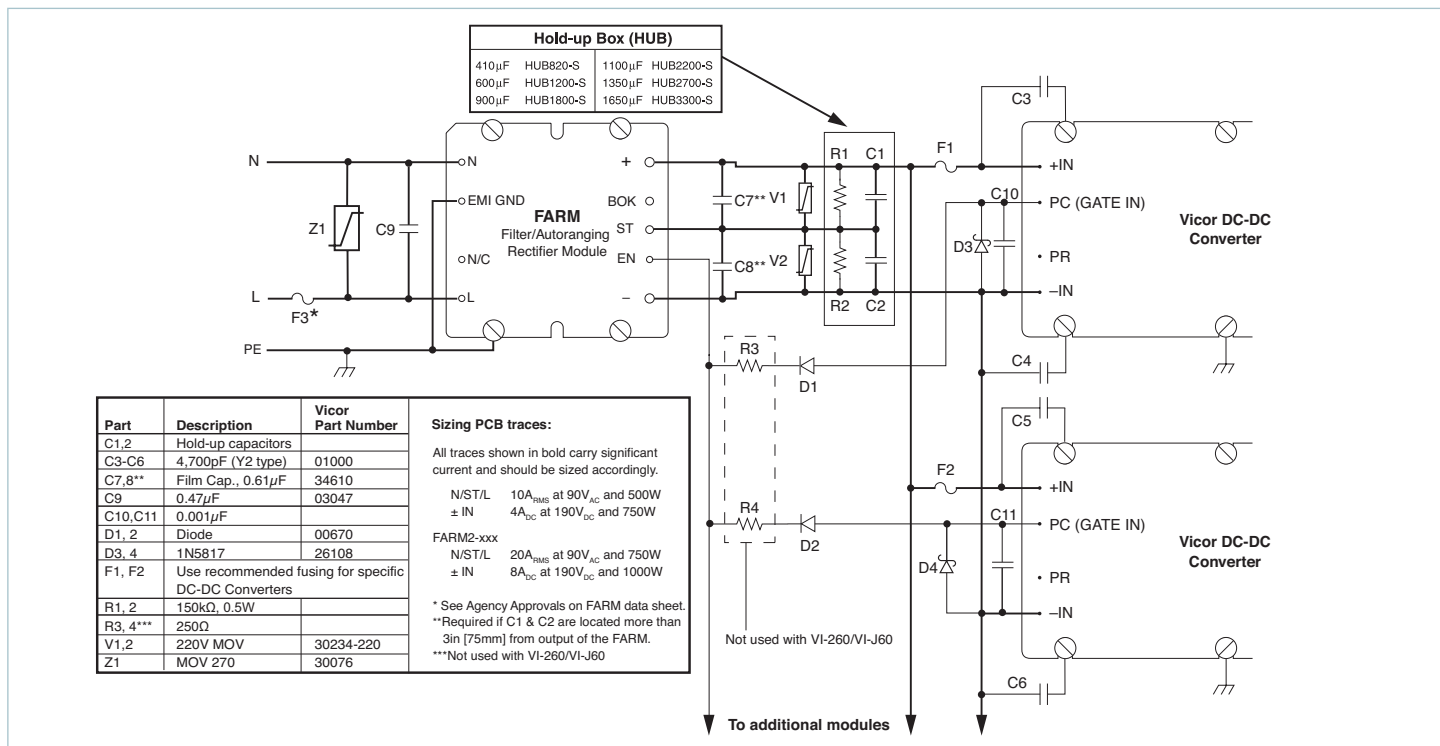

Figure 9 — Offline power supply configuration
**Strap (ST) Pin:** In addition to input and output power pin connections, it is necessary to connect the Strap pin to the center junction of the series hold-up capacitors (C1, C2, see Figure 9) for proper (autoranging) operation. Metal oxide varistors, V1 and V2 provide capacitor protection. The bleeder resistors (R1, R2, see Figure 9) discharge the hold-up capacitors when power is switched off. Capacitors C7 and C8 are recommended if the hold-up capacitors are located more than 3in [75mm] from the FARM output pins.
It should be noted that the series combination (C1, C2, See Figure 9) requires each capacitor to be twice the calculated value, but the required voltage rating of each capacitor is reduced to 200V. Allowable ripple voltage on the bus (or ripple current in the capacitors) may define the capacitance requirement. Consideration should be given to converter ripple rejection and resulting output ripple voltage.